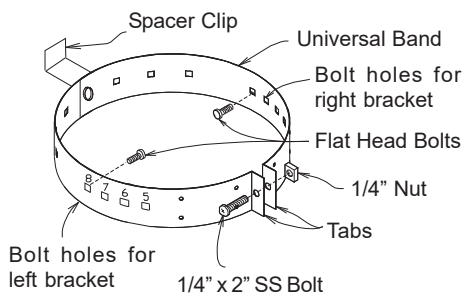

**FIGURE 44**
**1.** Place the two halves of the UWRS Band as shown in Figure 44. Insert the flat head bolt through the middle set of holes in the band halves marked with the corresponding pipe diameter of the chimney being installed.
The bolt should pass through the band halves with the tabs oriented outward as per Figure 44.
2. Place the Spacer Clip on the bolt used in the middle of the assembly and secure with washers and nut (see Figure 44).
Where horizontal adjustability is needed, a Universal Wall Band can be used. For more detailed instructions see the Universal Wall Band section, Steps 1 through 9 and Figures 44 through 45c.